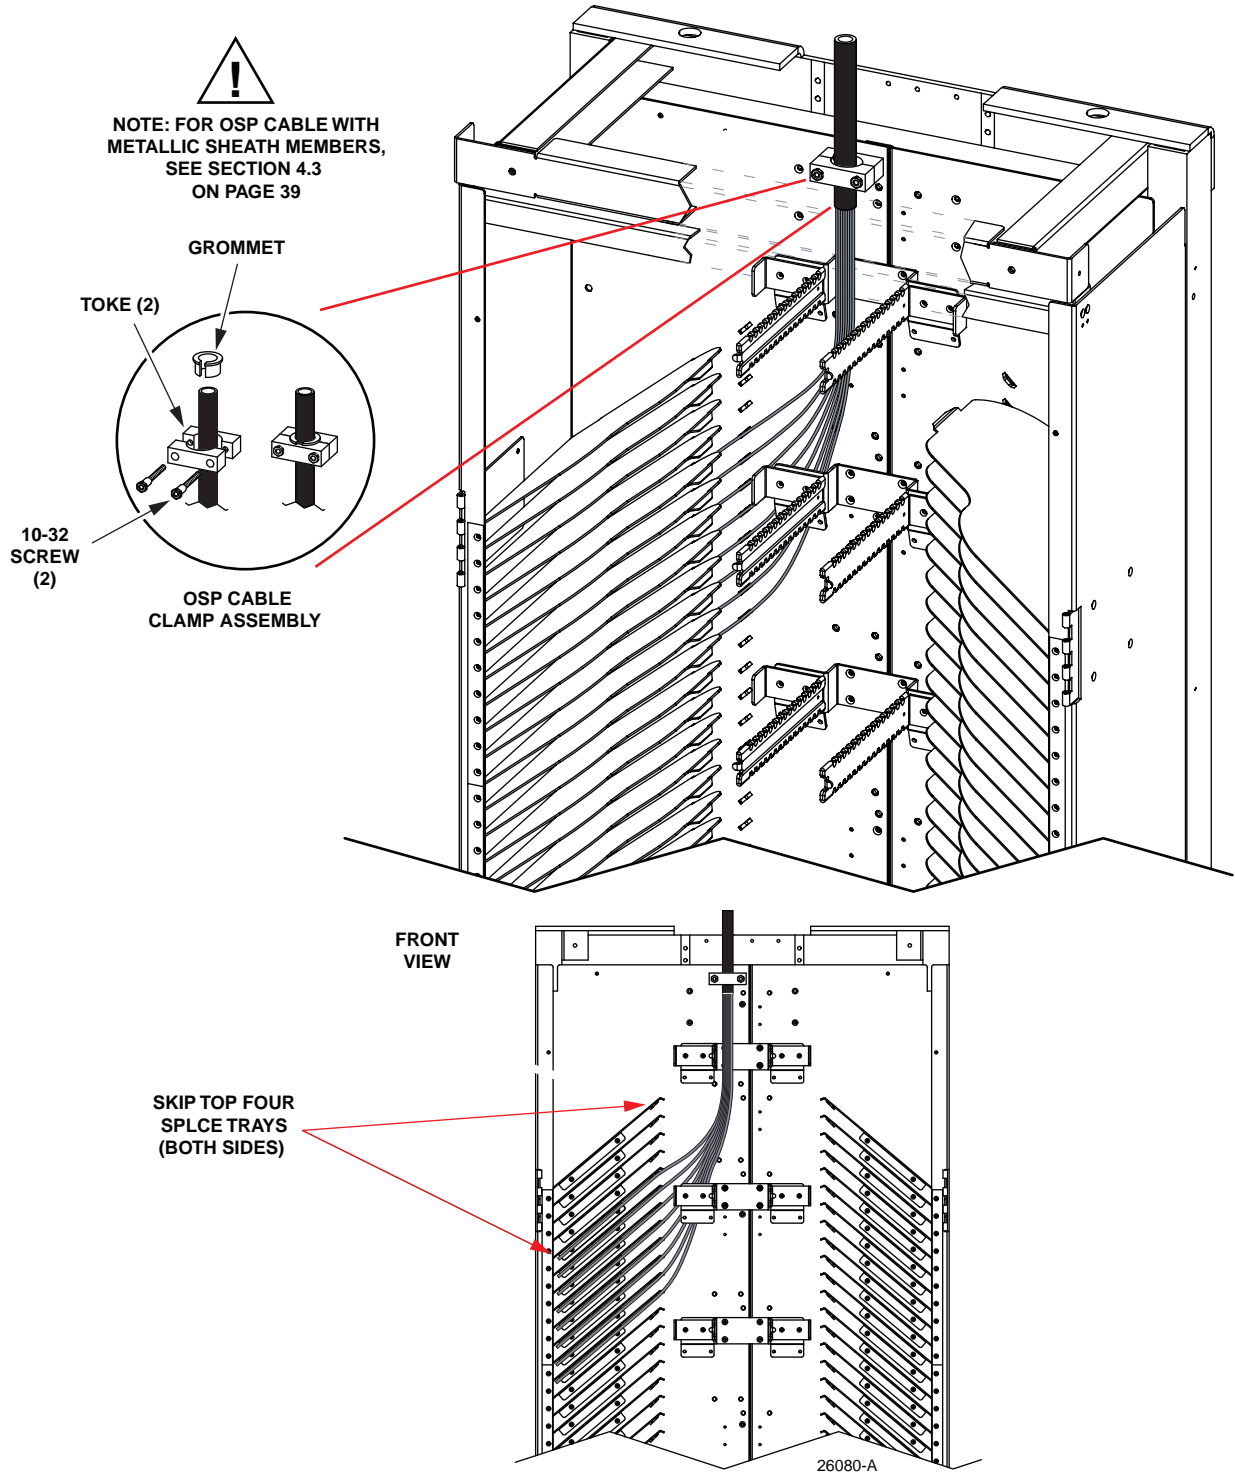

Figure 27. OSP Cable Routing (Overhead Cable Environment, 96-Fiber IFC Configuration)
2. Route OSP cable as shown in Figure 27.